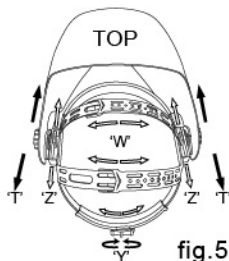

fig.5
The overall circumference of the headgear can be made larger or smaller by rotating the knob on the back of the headgear. (See adjustment “Y” in fig.5). This can be done while wearing the helmet and allows just the right tension to be set to keep the helmet firmly on the head without it being too tight.
• If the headgear is riding too high or too low on your head, adjust the strap which passes over the top of your head. To do this release the end of the band by pushing the locking pin out of the hole in the band. Slide the two portions of the band to a greater or lesser width as required and push the locking pin through the nearest hole. (See adjustment “W” in fig.5).
Step 1: Undo the block nut (See “T” in fig.5) to adjust the distance between the helmet and your face in the down position.
Step 2: Loosen the block nut on either side of the helmet and slide it nearer or further from your face. (See adjustment “Z” in fig.5). It is important that your eyes are each the same distance from the lens. Otherwise the darkening effect may appear uneven.